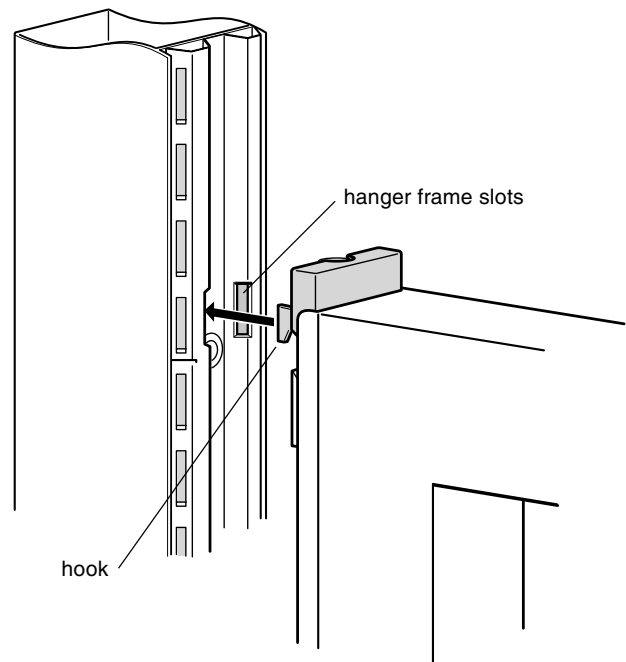

Figure 2
4. Lift the change of height block slightly off of the top wedge block of the shorter frame and insert the hooks into the slots in the hanger frame of the taller frame. Tighten allen screw 6-14 foot pounds. (Figure 2)